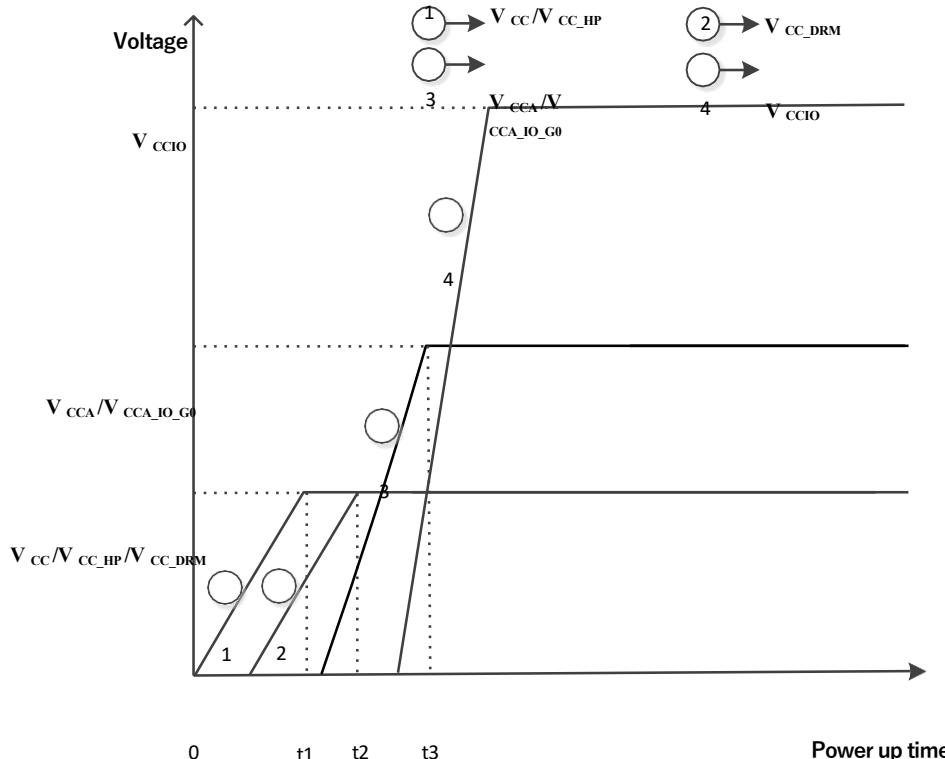
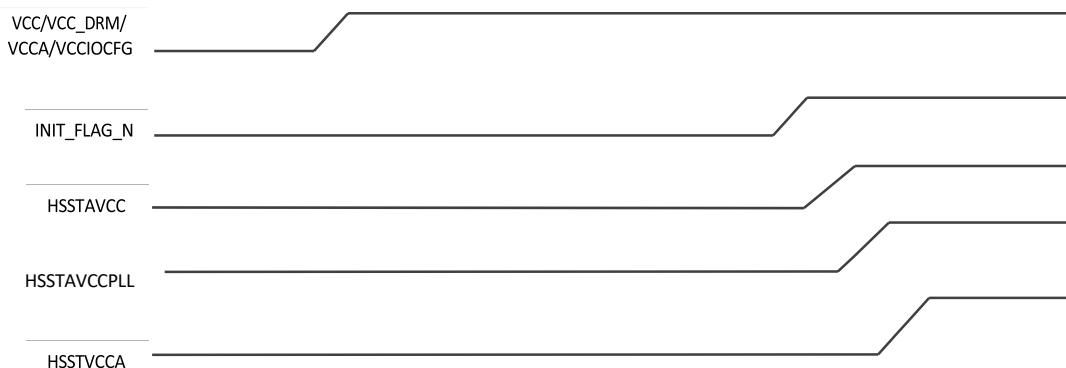

Figure 3-1 Power-on sequence diagram
Figure 3-3 HSST power-up sequence
- (2) The recommended power-off sequence is the reverse of the power-on sequence.
- (3) The recommended power-on sequence is shown in Figure 3-1. According to the power-on sequence of (1), each power supply voltage must satisfy VCC/VCC\_HP ≥ VCC\_DRM ≥ VCCA/VCCA\_IO\_G0 ≥ VCCIO before reaching the typical voltage value.
After the initialization is completed (after the INIT\_FLAG\_N signal is pulled high), then power on the HSST. The recommended power-on sequence is shown in Figure 3-3 .
- (1) It is recommended that the overall power-on sequence be logically powered on first ( see Fig. 3-1 ) Power on the HSST power supply ( see Figure 3-3 for details ) .
- (2) The recommended power-off sequence is the opposite of the recommended power-on sequence. Simultaneous power-off can be supported, but the hot-plug function is not guaranteed.